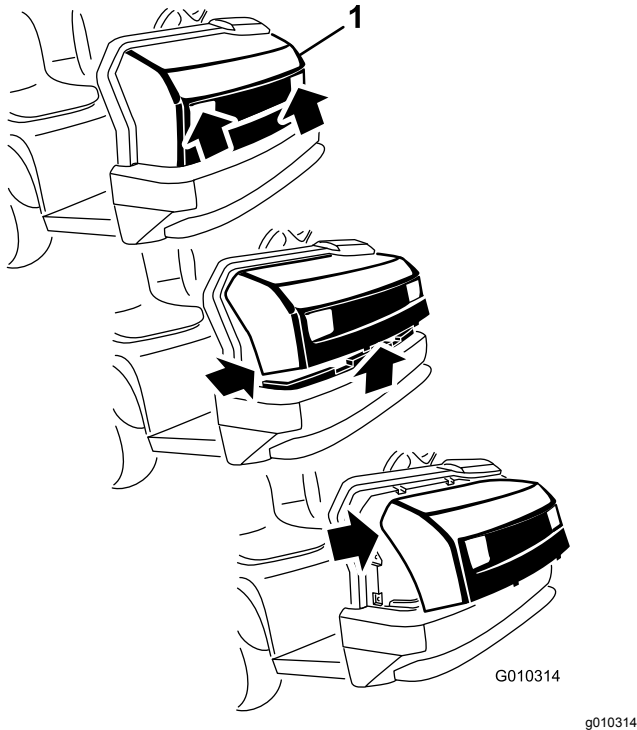

Figure 3
1. While grasping the hood in the headlight openings, lift up the hood to release the lower mounting tabs from the frame slots (Figure 3).
2. Pivot the bottom of the hood upward until you can pull the top mounting tabs from the frame slots (Figure 3).
3. Pivot the top of the hood forward and unplug the wire connectors from the headlights (Figure 3).